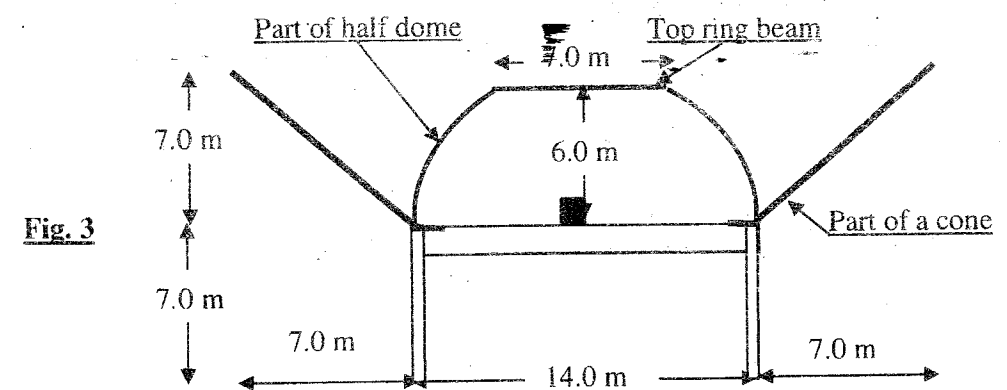

Fig. 3
A. For the RC structural system of part of a dome and part of a cone covering circular area shown in Fig. 3 it is required to carry out the following: (assume that the working distributed live load is 1.0 kN/m^2 , flooring cover is 0.5 kN/m^2)